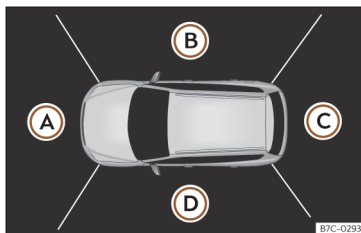

Fig. 183 Viewing the top view system: aerial view.
Function buttons **Fig. 183**:
The aerial view is generated by combining the images from all the cameras **📷** **>>> Fig. 183**. The aerial view can be selected by pressing the **vehicle** in the area.
Select the corresponding view by pressing the different areas **>>> Fig. 183 (A) to (D)** of the aerial view or the reduced aerial view.
The infotainment system screen displays the aerial view >>> **Fig. 183**. If you press the  button when driving at over 15 km/h (9 mph), the image will not be displayed.